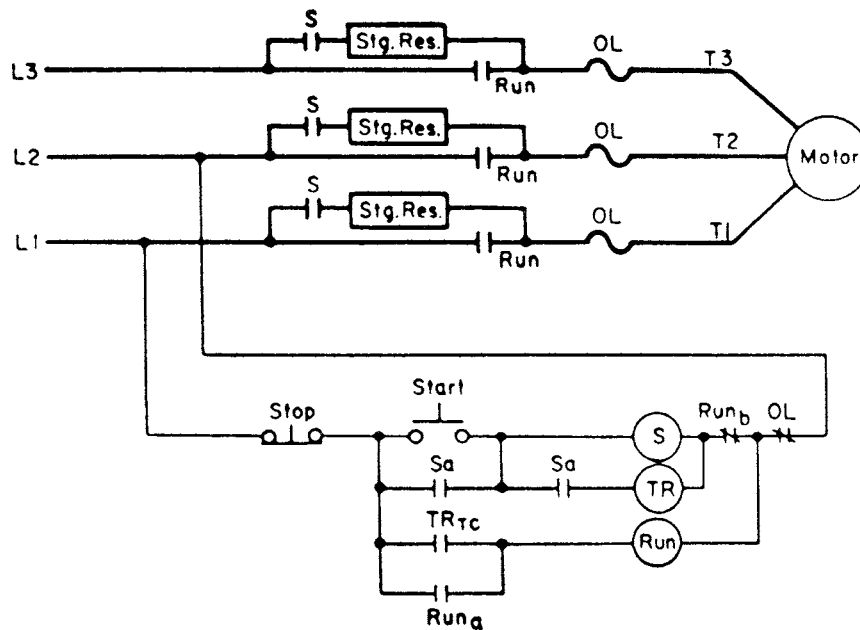

Fig. 5-36 Wiring diagram for a primary resistor type starter. (Westinghouse)
Operation Figure 5-35 is the reduced-voltage magnetic starter that uses resistors to operate a three-phase motor properly at start. Closing the START button or other pilot device energizes the start contactor (S) shown in Fig. 5-36. This connects the motor in series with the starting resistors for a reduced-voltage start. The contactor (S) is now sealed in through its interlock (Sa). Timing relay (TR) is energized, and after a preset time interval its contacts (TR_{TC}) close. This energizes the run contactor, RUN, which seals through its interlock (RUN_a). The contacts (RUN) close, bypassing the starting